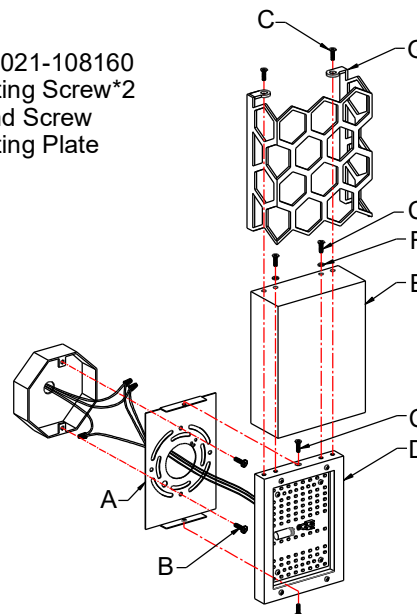

Fig. 2
## CONNECTING THE WIRES (Fig. 2)
5. Connect the electrical wires as shown in Fig. 2, making sure that all wire connectors are secured. If your junction box has a ground wire (green or bare copper), connect the fixture's ground wire to it. Otherwise, connect the fixture's ground wire directly to the mounting plate (A) using the green screw provided. After the wires are connected, tuck them carefully inside the junction box.